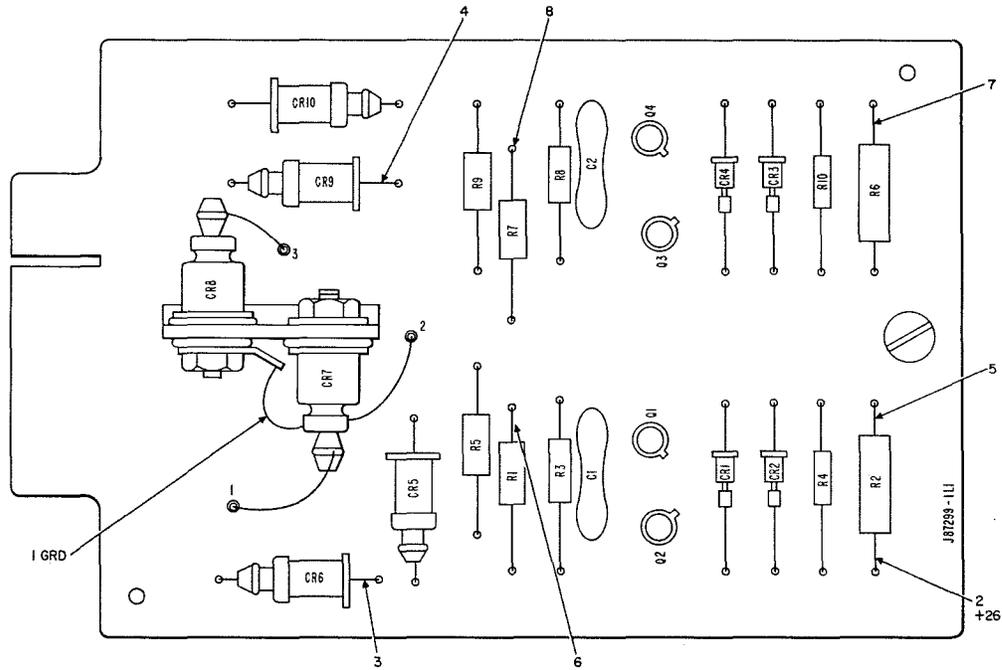

Fig. 1—CP3 Level Detector Circuit—Component Designation and Test Points
5.01 Failure of the J87294 converter will usually be characterized by one of two conditions: operated input fuses and consequent loss of output, or loss of output power without operation of input fuses. If the input fuses are operated, refer to 5.04 and the trouble chart in 5.05. If the input fuses are non-operated, but no output is present, the dynamic tests in 5.06 should be consulted. Figures 1 through 3 show component and test point location as outlined in the dynamic tests in 5.06 for the various circuit boards in the control section of the converter. Figure 4 shows the ED-82354 test circuit required for the control circuit test in 5.06.
(1) Operate the DC POWER (S1) switch to the OFF position. (2) Remove the CP3 Level Detector and insert the ED-82354 test circuit in the CP3 LD frame receptacle. (3) Insert the LD circuit board in the receptacle on the test circuit. (4) Perform A through D as required.
A. Possible Fault in CP3 Level Detector (Refer to Fig. 1.)